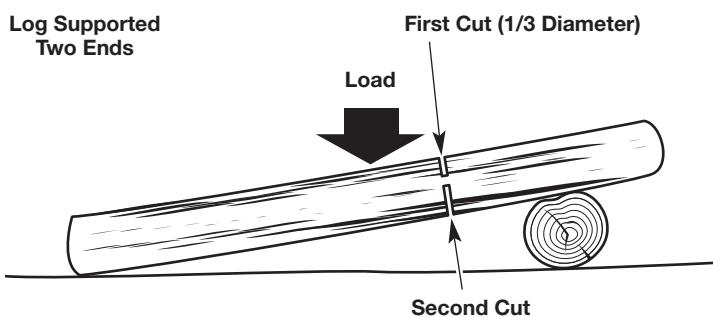

Fig. 15
- If the log is supported on two ends (Fig. 15), make the first cut from above (*Overbuckling*). Refer to *Overbuckling*.